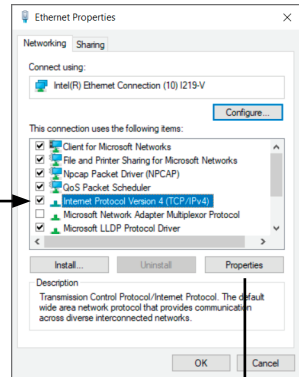

Fig. 10
3. On the properties screen, select Internet Protocol Version 4 (TCP/IPv4) and click on Properties (Fig. 10).
4. On IPv4 properties screen, select Use the following IP Address option (Fig. 10).